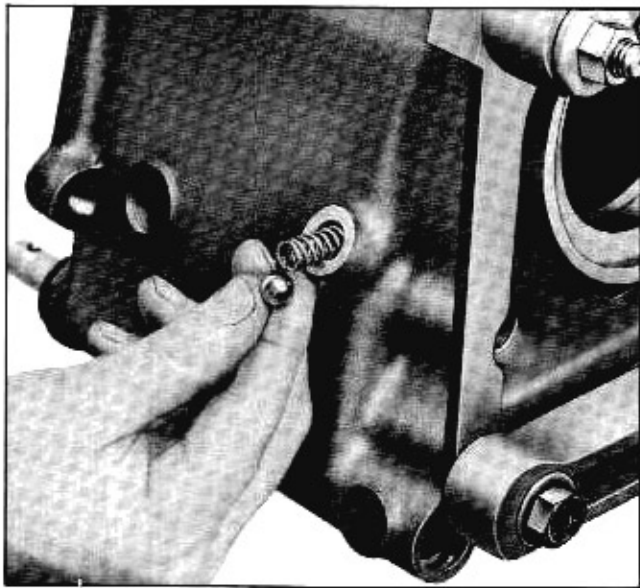

Fig. 7-40 Installing Detent Spring and Ball
10. Install detent spring and ball (Fig. 7-40), in that order, in detent cavity. Tap ball and spring to insure the spring is resting on bottom of cavity.